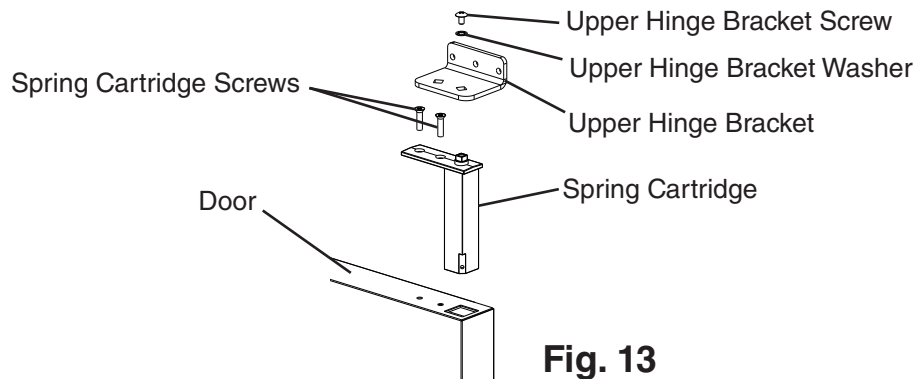

Fig. 13
- 6) Remove the screw and washer securing the upper hinge bracket to the spring cartridge. Remove the 2 screws securing the spring cartridge to the door, then remove the spring cartridge from the door. See Fig. 13.